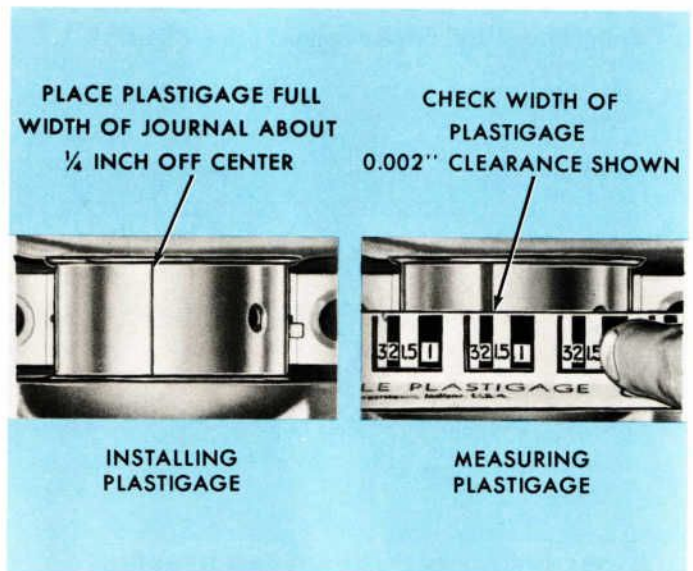

FIGURE A-6. MEASURING MAIN BEARING CLEARANCE
12. Check the clearance of each main bearing with plastigage. (See Figure A-6.)
- Check the clearance of each bearing with plastigage. (Refer to Figure A-6.)